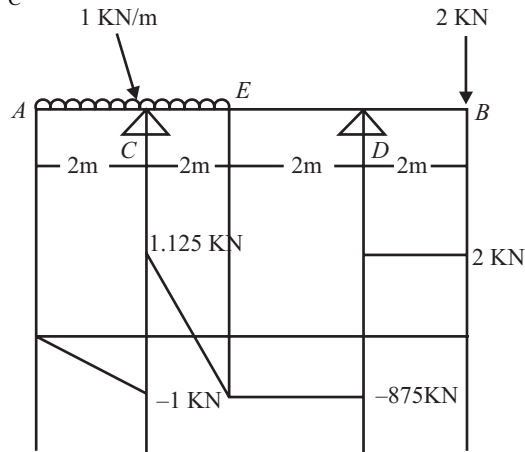

Fig 12.24
Q.19: Draw the shear force diagram of the beam shown in fig 12.24.